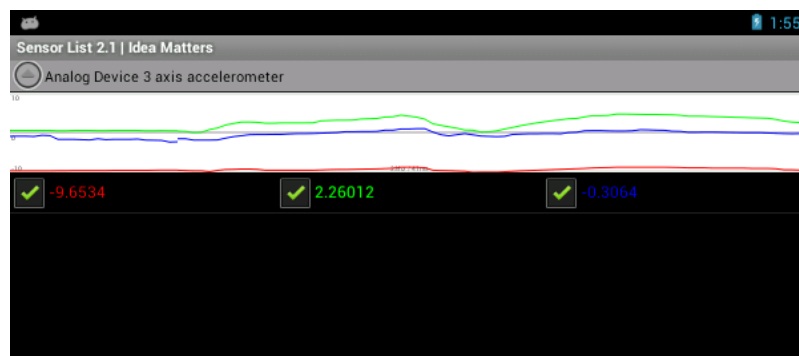

Figure 2-4 Real-time acceleration curve
(1) Gravity sensor can be tested by whirling the screen.
(2) Run SensorList App, in the option “Analog Device 3 axis accelerometer”, You can see real-time changes of the three axis acceleration value curve, like Figure 2-4.